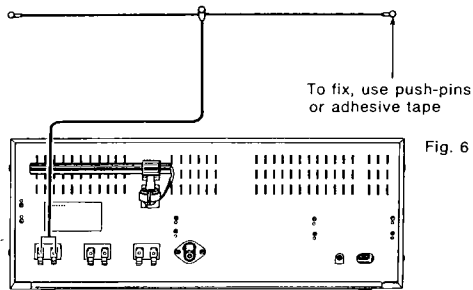

Fig. 6
Connect the accessory compact FM antenna to the FM Antenna Terminals ③, then extend and fix the antenna on the wall near a window by using three push-pins or adhesive tape as in Fig. 6. If the FM station is still weak, connect a suitable outdoor FM antenna (impedance: 75 ohms) to replace the compact antenna. (For installation, follow the instructions provided with the antenna.)